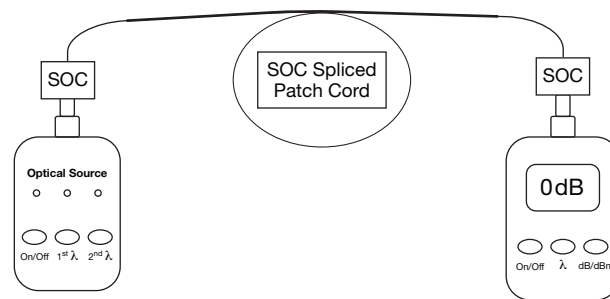

Figure 5
9. Replace the "fiber patch cord" with the "SOC spliced patch cord." The power meter should read 0dB PLUS allowable splice loss X2. Refer to Figure 5.